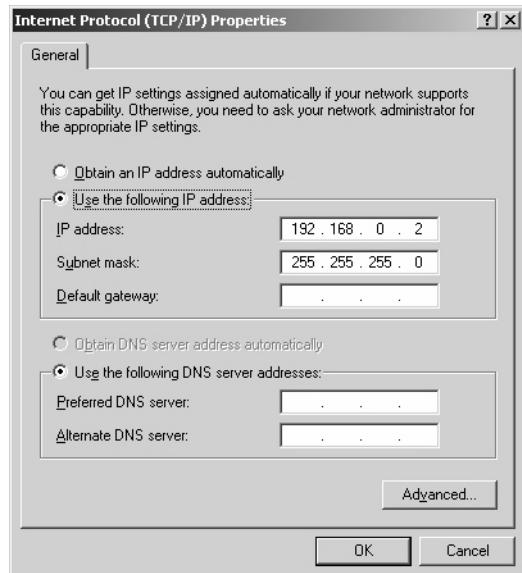

Figure 14: TCP/IP Properties
4. Choose **Internet Protocol (TCP/IP)** and click the **Properties** button to open the TCP/IP Properties window (Figure 14).